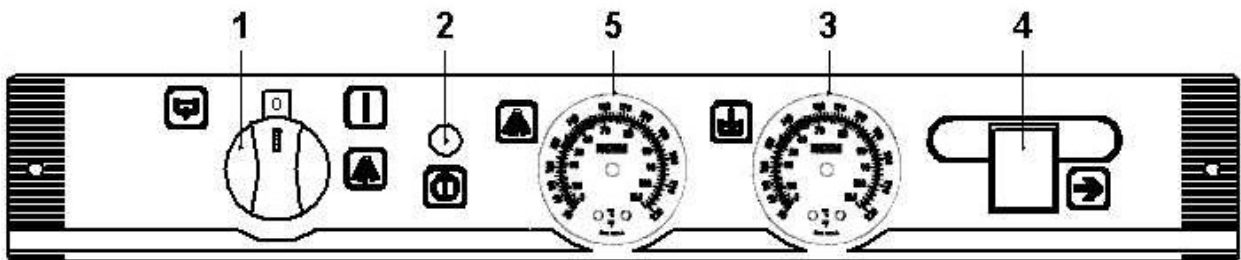
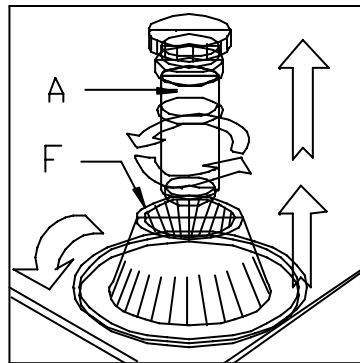

Fig.8
Fig. 10
- When selector knob (1), Fig. 8, is set at  the pilot light (2) comes on. The rinse and wash water will start to fill. Upon completion of the fill cycle the pressure valve switches position sending power to the operating t-stat at this time the booster begins to heat the rinse water to a temperature of (185°F +/- 5°). Once temperature is achieved the operating t-stat switches position to the tank element this will heat the wash water to (150°F +/- 5°). Once both rinse and wash temperature are met, the machine is ready to wash. Check temperatures on gauges: (5) for rinsing and (3) for washing.
- Start the wash cycle by pressing (4) start switch. Wash cycle lasts 2 minutes. Note that the switch will be illuminated for the duration of the cycle.
- To empty the tank completely, remove the overflow tube located in the tank(A)(Fig. 10), set switch (1) to  and press button (4) (Fig. 8). ***DON'T REMOVE THE ROUND SCRAP BASKET, ONLY THE TUBE.***
- When the working day is complete set switch (1) to the 0 setting.
For a cool rinse, turn and hold the switch (1) to the setting  (Fig. 8) for operator's desire amount of time.
- Clean scrap basket (F) (Fig.10) everyday. To do this; remove the anti-overflow device (A), turn scrap basket counterclockwise and lift (F). Replace the clean scrap basket (F) by putting the grooves into the slots and turning clockwise (Fig. 10).